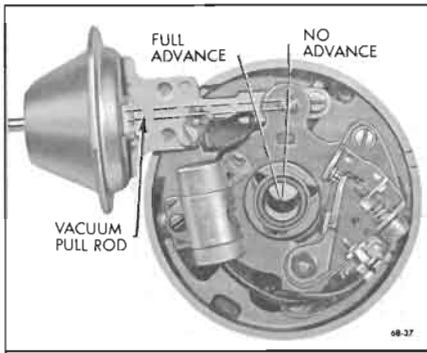

Figure 68-37—Vacuum Advance Mechanism - Small Engines
3. **Vacuum Advance** is governed by manifold vacuum. The contact point set is mounted on a breaker plate which is located below the centrifugal advance mechanism and uses the outer diameter of the upper shaft bushing for its bearing surface. The movable breaker plate is held in position on the upper shaft bushing by a retainer. The vacuum unit is mounted on the distributor base and under the movable breaker plate so that the breaker plate can be rotated around the distributor cam by a link from the vacuum unit. See Figure 68-37.